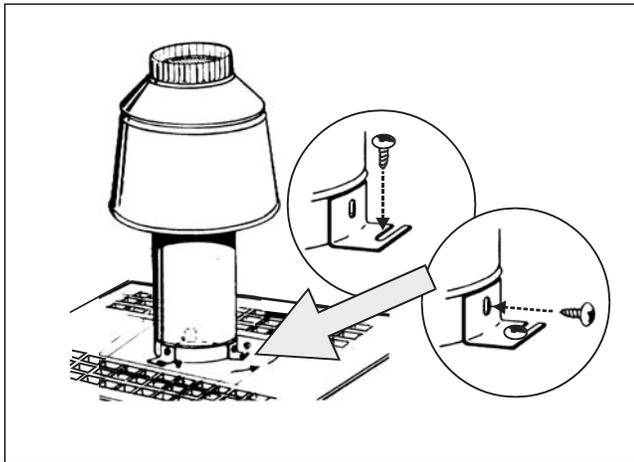

Figure 40. Fastening the Stack
12. Attach the clips to the adapter plate by securing the slotted side of the clips with the screws in the kit (see Fig. 40).
14. Secure the stack to the clips with the screws supplied in the kit (see Fig. 40).